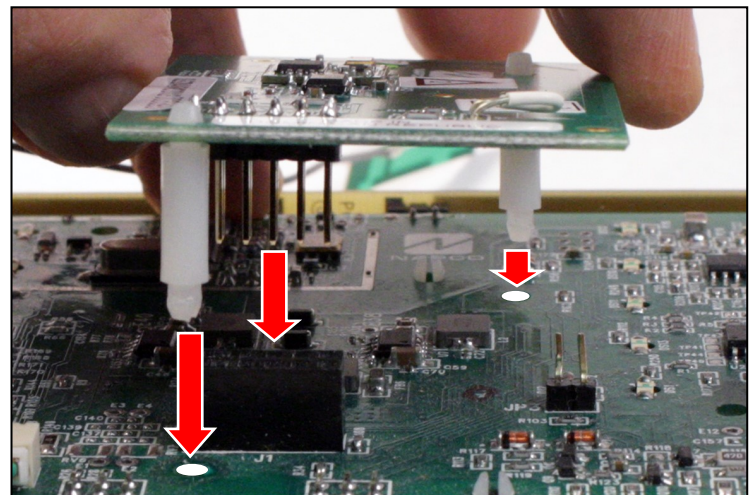

Fig. 3: Align and Insert the ISEC-ZWAVE.
3. Carefully align the two **Standoffs** with their two holes, and align the **Header Plug** with its **Header Socket** (Fig. 3). Firmly press the **ISEC-ZWAVE** into the PC board.